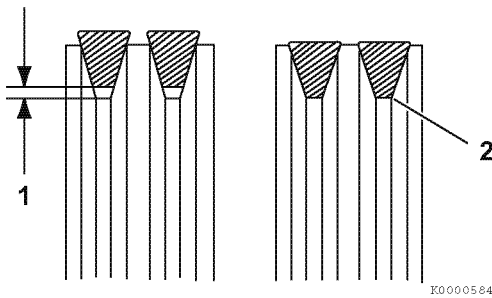

Figure 5-3
3. Tighten the V-belt to the proper tension. There must be clearance (**Figure 5-3, (1)**) between the V-belt and the bottom of the pulley groove. If there is no clearance (**Figure 5-3, (2)**) between the V-belt and the bottom of the pulley groove, replace the V-belt.